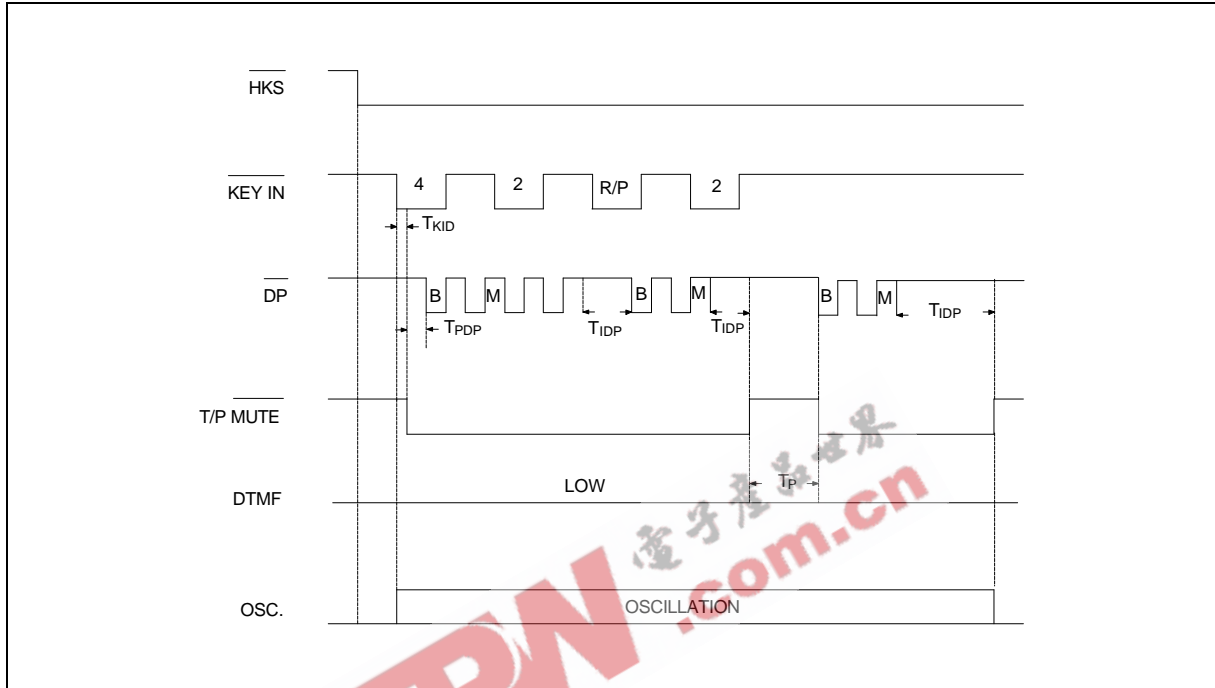

Figure 3. Pause Function Timing Diagram
3. The pause function timing diagram is shown in Figure 3.